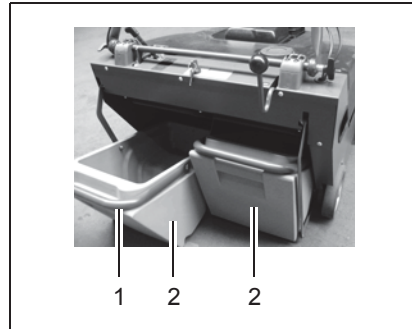

Fig. 12
2. Remove the dirt hoppers (Fig. 12/2) from the machine and empty them.
Carry the dirt hoppers (Fig. 12/2) by the handles (Fig. 12/1).